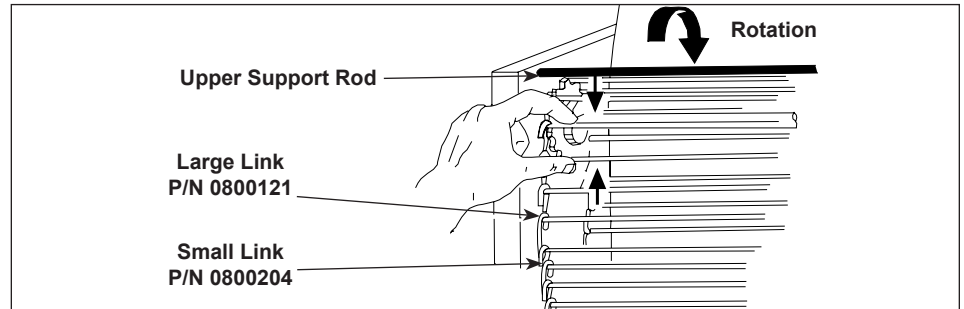

Figure 10. Removing Conveyor Belt Chain
9. Disconnect the Conveyor Belt Chain by squeezing any two links together and unhooking both ends one link (Figure 10). Needle-nose pliers may be used.
5. Disconnect the Conveyor Belt Chain by squeezing any two links together and unhooking both ends of one link (Figure 10).
NOTICE: The ends of the hooks must point down (Figure 10).